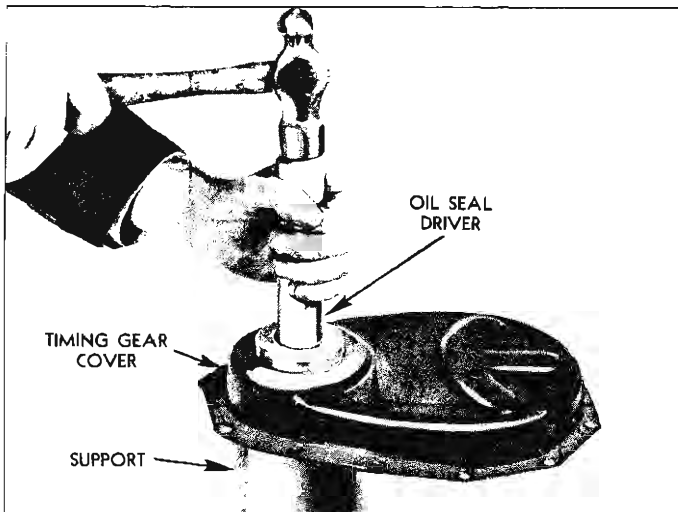

Fig. 20—Installing Oil Seal
2. Install new seal so that open end of the seal is toward the inside of cover and drive it into position with Tool J-0995 (fig. 20).